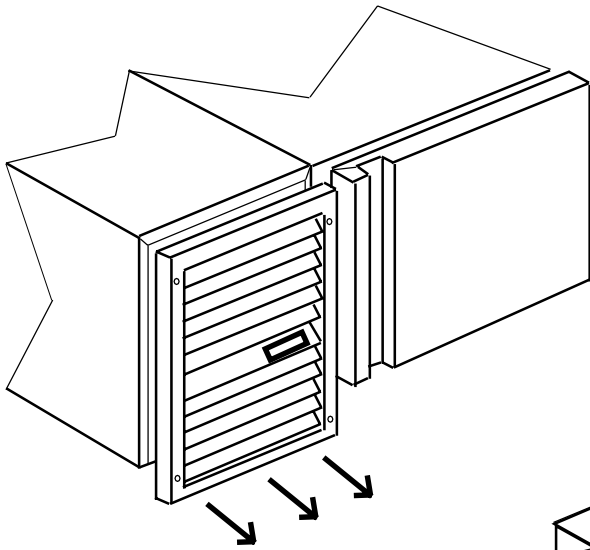

Fig. 7a
2. Remove louver assembly (see Figures 7a & 7b).